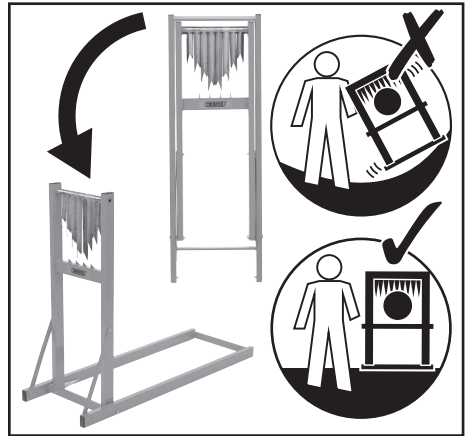

FIG.1
7.1 SETTING UP THE LOG STAND – FIGS. 1 – 2